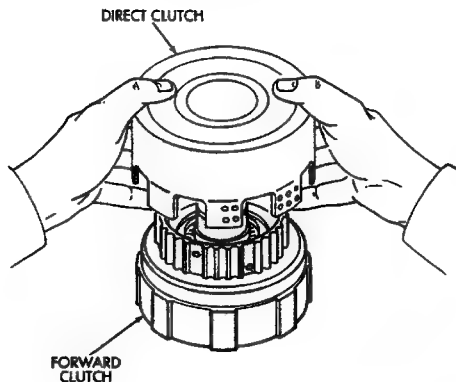

Fig. 2 Separate Direct Clutch From Forward Clutch 55
- (1) Remove direct clutch from forward clutch (Fig. 2).